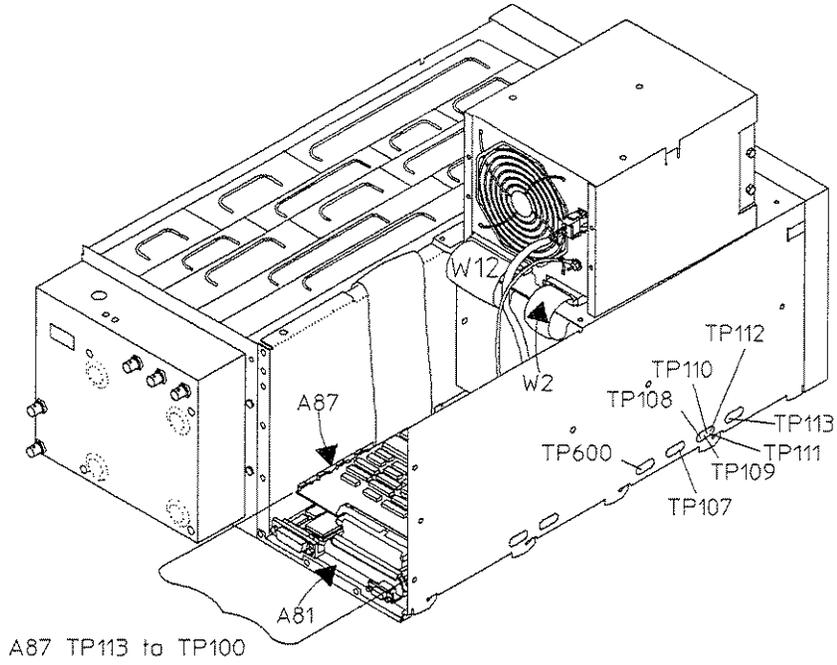

Figure 5-13. Control Lines Test Location
2. Set the power switch to ON (I). Check the signals in table 5-10 with a logic probe or oscilloscope (see figure 5-13).